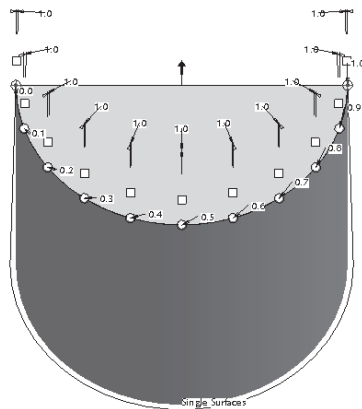

Figure 8-74 Location points on the edge
- After adding eleven points, double-click on any of the location value that is present in the drawing area. The edit box appears, enter the value of **0** in this edit box. Similarly, locate all remaining ten points and increment them by 0.1. Figure 8-74 shows the model after locating all eleven points on the edge.